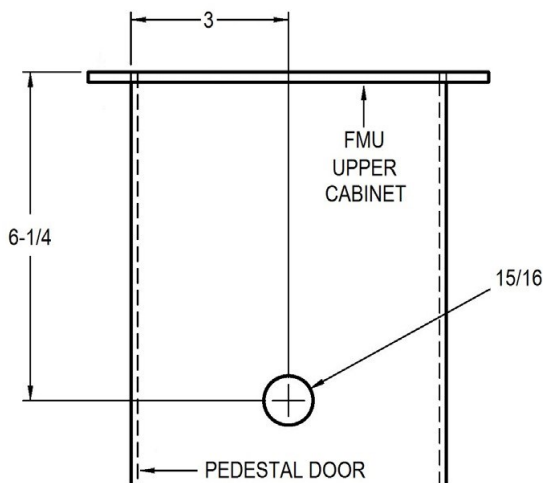

Figure 1 Locating FMU Stop Switch
2. Mark the hole position on the right side of the Pedestal (same side as ID plate) 6-1/4" down from the flange and 3" from the front (door side) (see Figure 1).